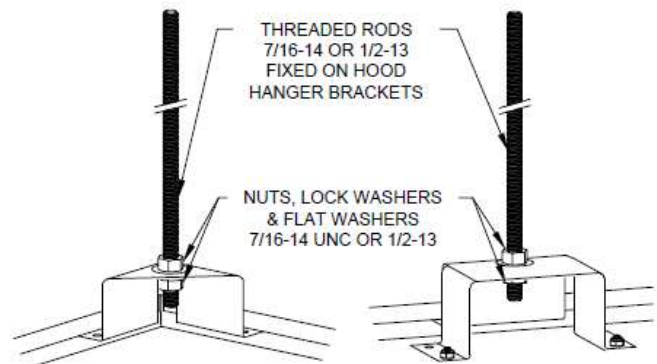

FIGURE 2 - Hood Hangar Brackets
- Install threaded rods between the ceiling and the hood supports, and assemble washer, lock washer and nut on threaded rods over and under the supports (see **FIGURE 2**). Use 7/16-14 UNC or 1/2-13 UNC hardware.